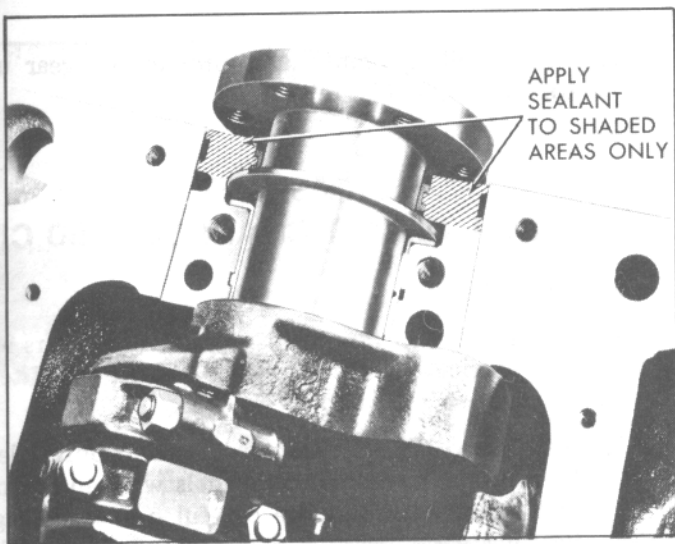

Fig. 56. Sealing Bearing Cap & Block
5. Apply a thin coat of brush-on type oil sealing compound to block mating surface and corresponding surface of cap only (Fig. 56). **Do Not** allow sealer on crankshaft seal lip.